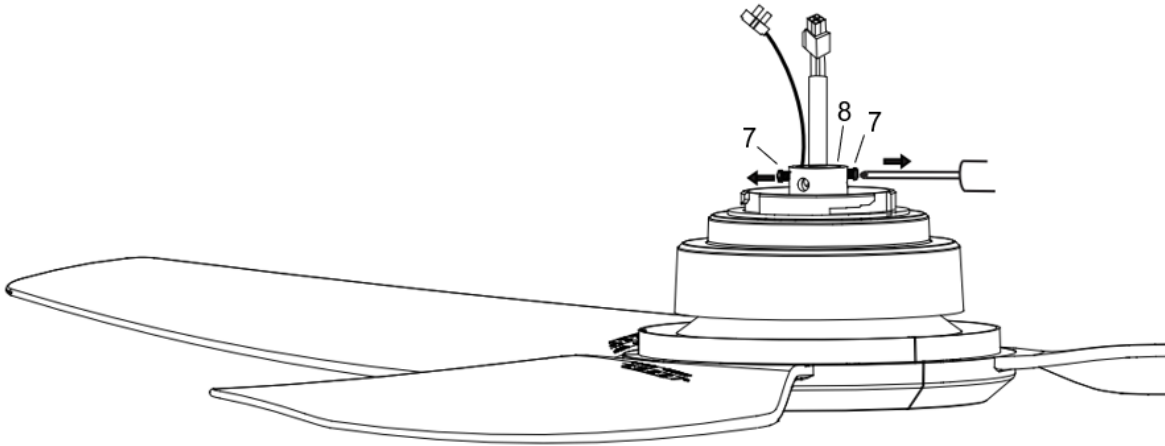

Fig. 5.2
2. Loosen the set screws (7) on the down rod coupling housing (8). (Fig. 5.2)